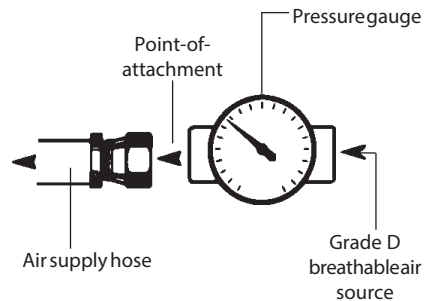

Figure 4
7. Adjust the air pressure at the point-of-attachment to within the approved pressure range found in the respirator user manual (Figure 4).